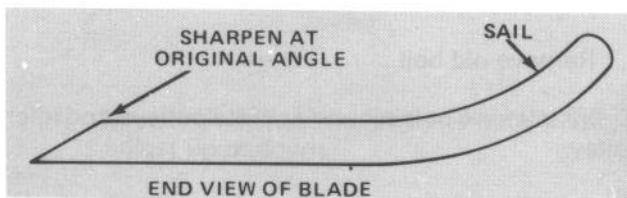

Figure 27
5. Using a file, sharpen cutting edge at both ends of the blade (Fig. 27). File only top side of blade, not the bottom side.